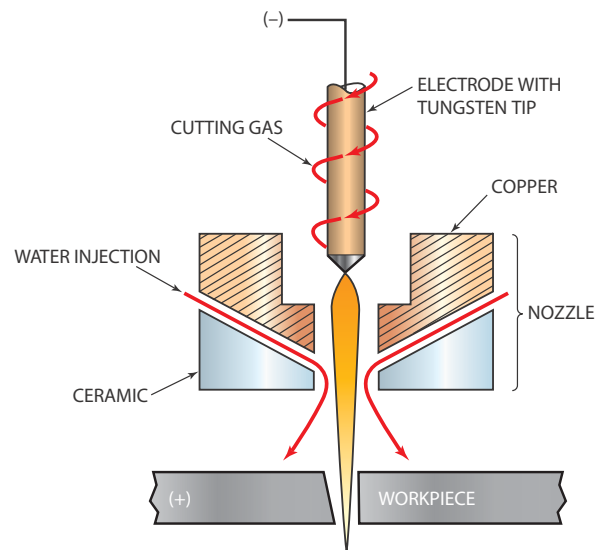

FIGURE 22-20 Water injection plasma arc cutting. Notice that the kerf is narrow, and one side is square. American Welding Society
- Water injection—The injection of water into the plasma stream as it leaves the nozzle tip is not the same as the use of a water shroud. Water injection into the plasma stream will increase the swirl and further concentrate the plasma. This improves the cutting quality; lengthens the life of the nozzle tip; and makes a squarer, narrower kerf, Figure 22-20.